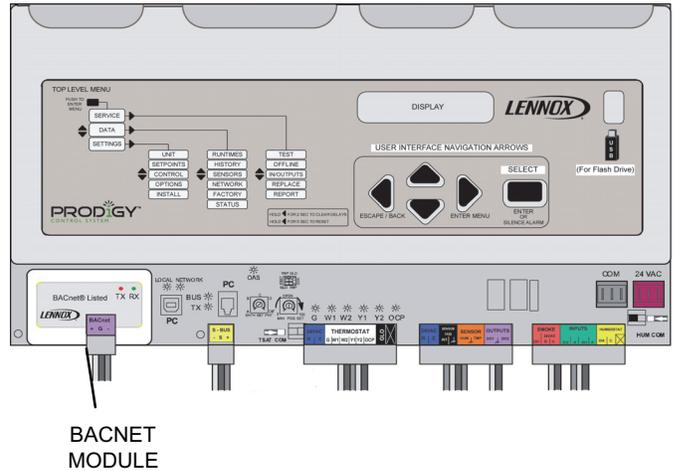

Figure 1. M2 Unit Controller BACnet® Module (BP1)
3. Plug the BACnet® module (see BACNET MODULE in figure 1) onto the M2 or M3 Unit Controller. Guide pins will align the module with the M2 or M3 Unit Controller connector.
4. Connect the BACnet SmartWire™ connector as shown in figures 1 or 2.